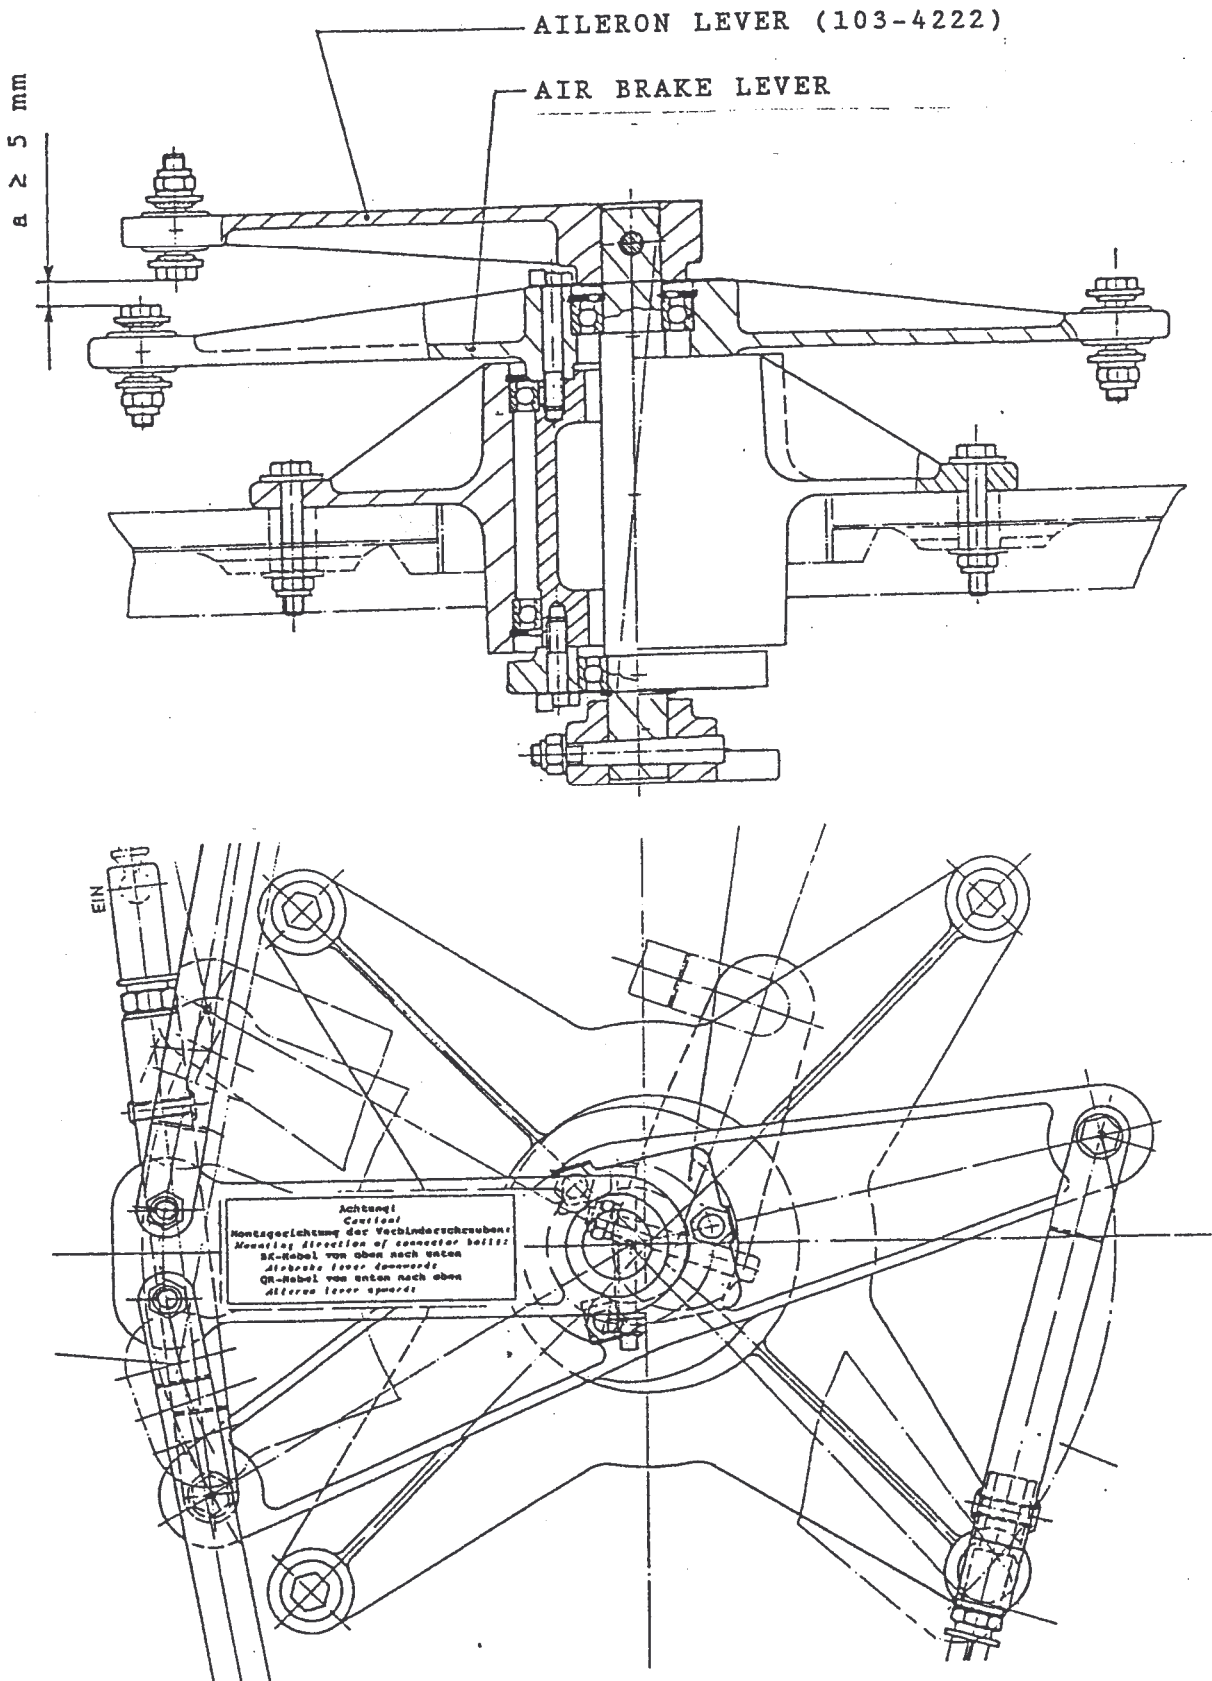

Fig. 1 Aileron- and air brake connector at the distributor
Checking of the correct mounting of the connector bolts (see fig. 1):
All bolts that have been incorrectly installed have to be removed and reinstalled observing the correct installation position according to fig. 1 and using new stop nuts.
3.2 Gluing of the placard (see fig. 1) with glue (e.g. PATTEX).